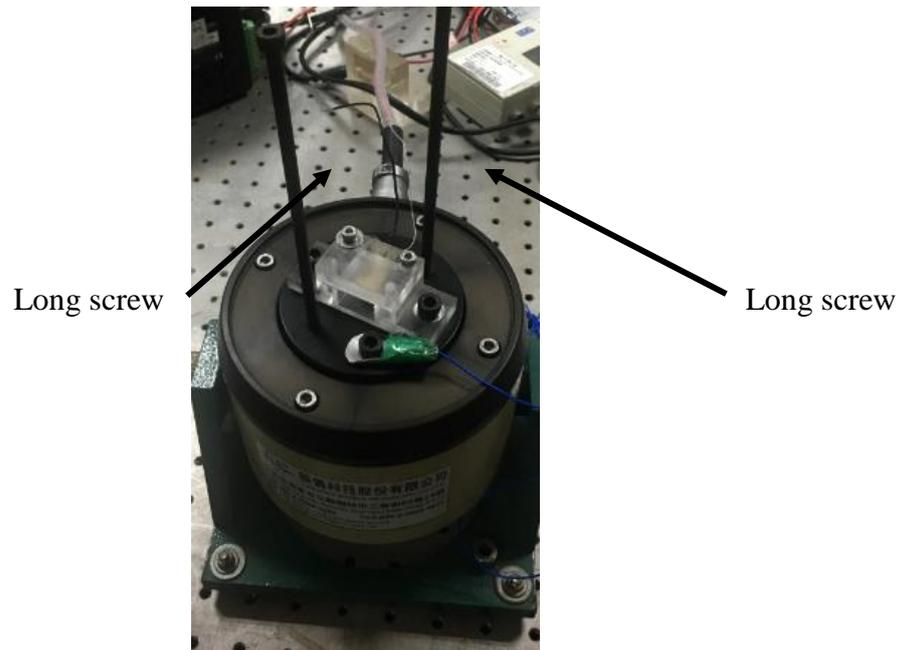

Figure 3.1 Long screws on shaker
1. Use two long screws tighten to the fixture follow figure 3.1, **do not overtighten** the screw
1. Use two long tighten to the fixture as figure 3.1. Do not overtighten the screws